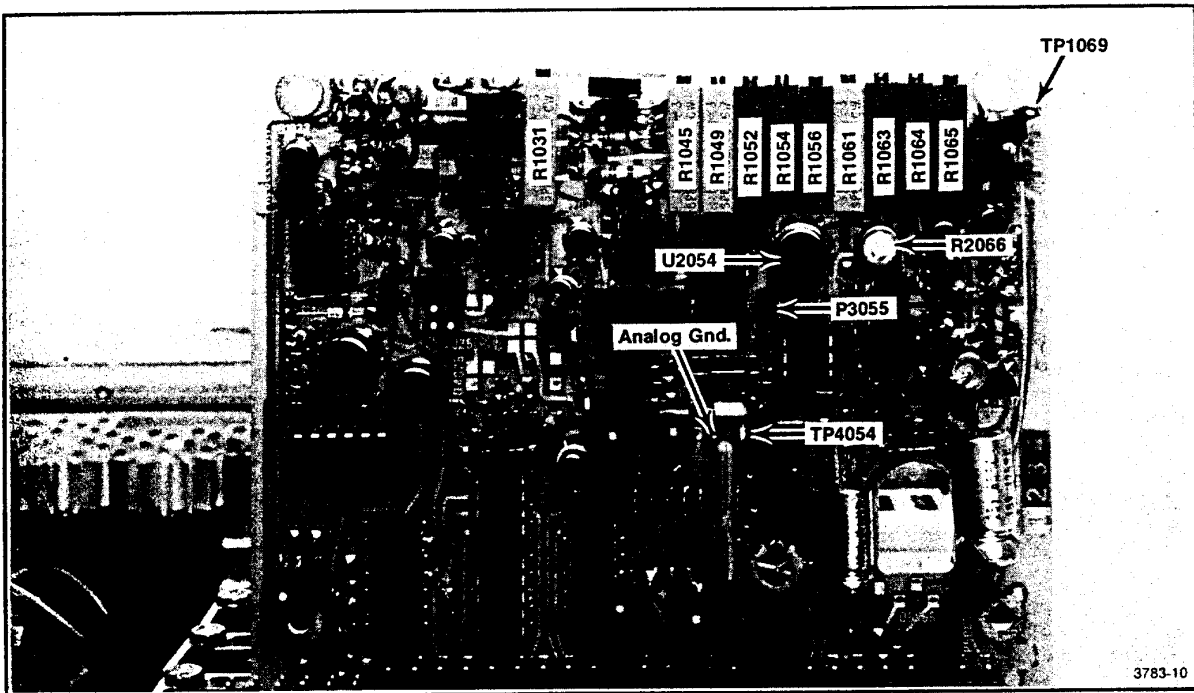

Fig. 3-52. Preselector Driver adjustments and test points.
- 2) pull P3055 and connect a voltmeter between TP4054 and analog ground (Fig. 3-52). Set the voltmeter range to 30  $\mu$ V or less;
- 3) adjust Driver Offset R2066 (Fig. 3-52) for 0 V;
d. Apply the CAL OUT signal to the RF INPUT. Set the REF LEVEL to -30 dBm, FREQ SPAN/DIV to 20 MHz and activate AUTO RESOLUTION. Select the 1.7—5.5 GHz FREQUENCY RANGE and adjust the FREQUENCY to center the 2.1 GHz marker. Center Input Offset adjustment R1031 (Fig. 3-52), press DEGAUSS button, and then center the 2.1 GHz marker on screen with the FREQUENCY control.
e. Ground TP1069 (Fig. 3-52), with a jumper strap and adjust the Preselector Offset (R1064) for maximum response of the 2.1 GHz signal. Remove the grounding strap and press DEGAUSS button.
f. Peak the 2.1 GHz signal with the -829 MHz IF Offset, R1049 (Fig. 3-52).
- m. Increase FREQUENCY to the 12 GHz marker, press DEGAUSS, then peak the 12 GHz point with Shaper #1, R1054 adjustment (Fig. 3-52).
- t. Adjust -829 MHz IF Offset R1049 (Fig. 3-52) to peak the 3.5 GHz response.